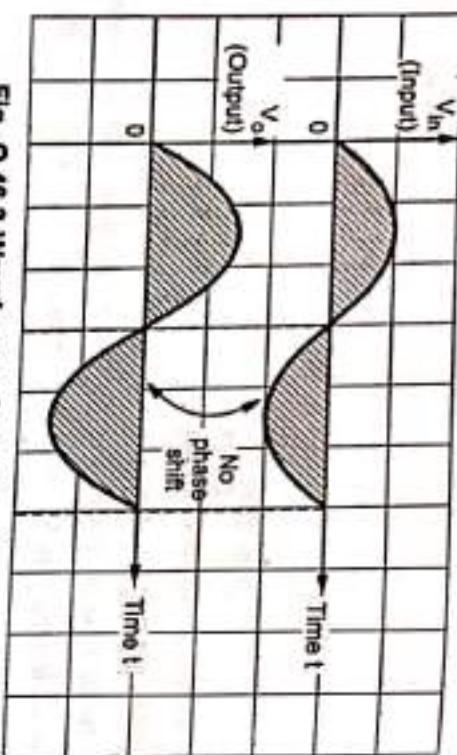

Fig. Q.46.2 Waveforms of non-inverting amplifier
- The waveforms of the non-inverting amplifier are shown in the Fig. Q.46.2.